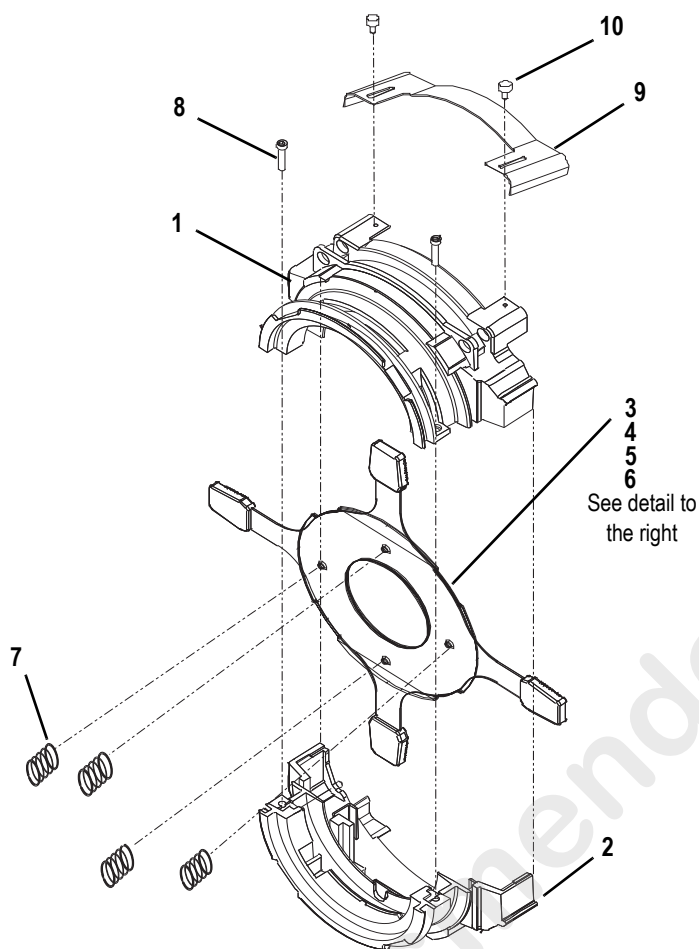

Figure 10
Step 1: See Figure 10. Stand the top and bottom front barrel castings (1 and 2) upright with the shutter end of the castings toward the bottom.